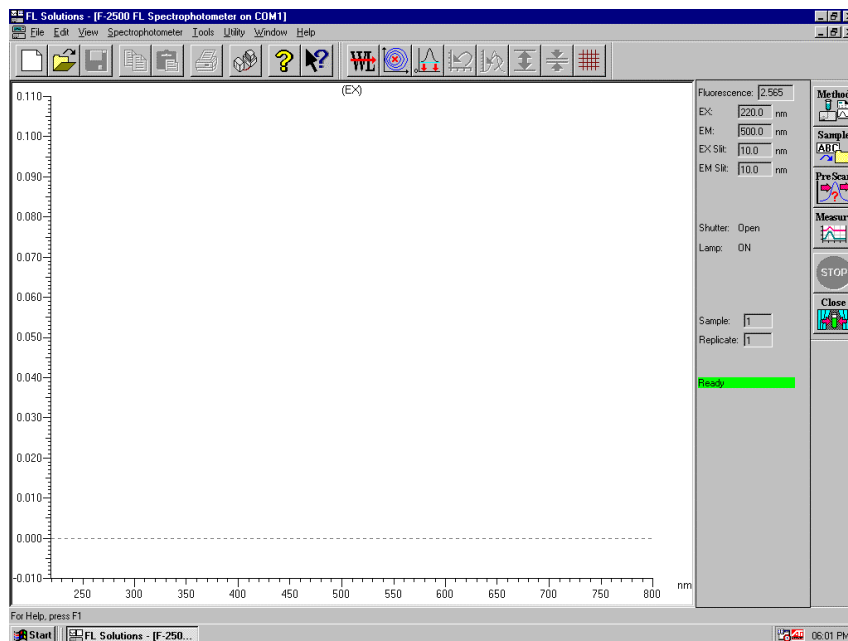

Fig. 1-10
- (6) On completion of initialization, the window shown in Fig. 1-10 is displayed.